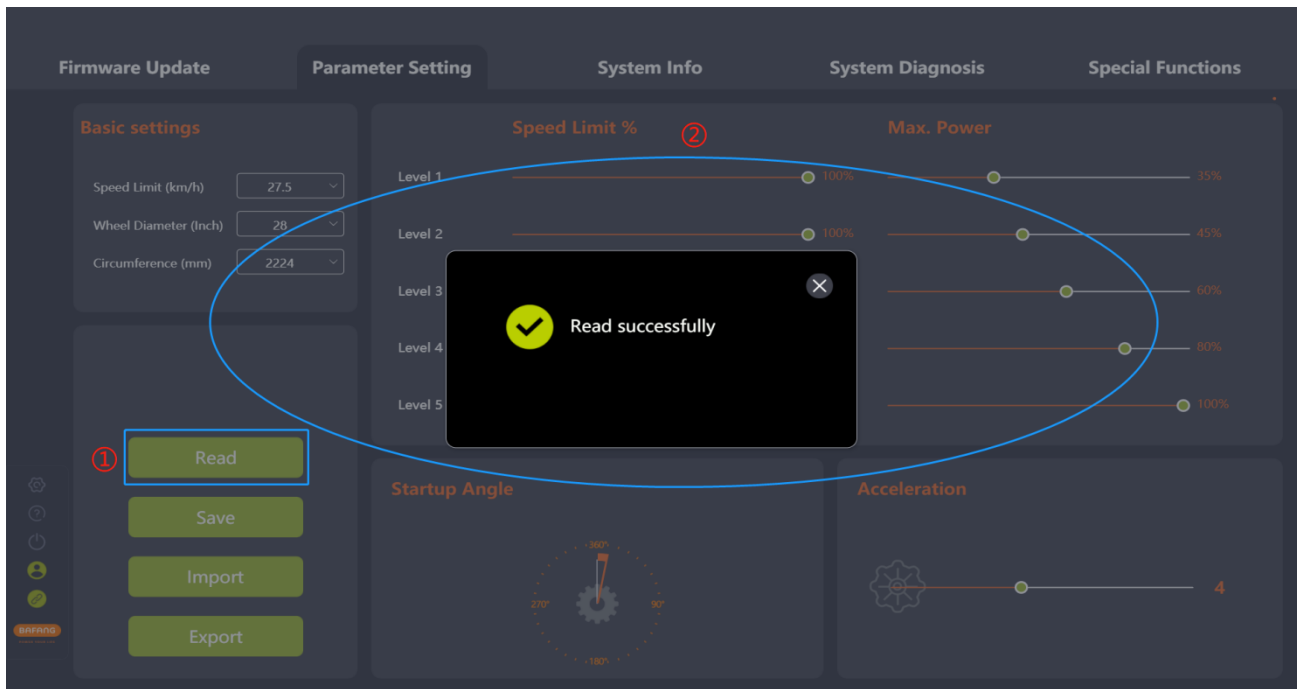

Fig. 5-4 Read
- (1) Confirm that the BESST Tool is connected properly to the controller. Click the “Read” icon.
- (2) Each parameter in the interface is displayed as a number and slider (Fig.5-4).